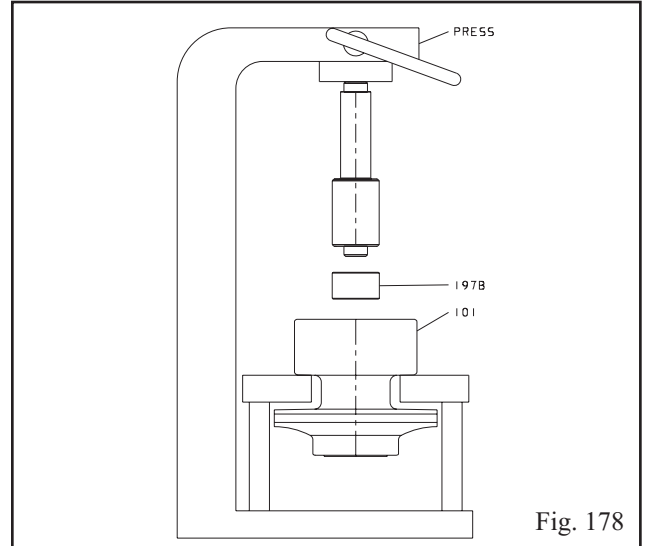

Fig. 178
2. Lubricate the outside of both radial bearings. Press the first radial bearing (197B) into impeller using the bearing installation tool. Support the impeller as shown. Line up keyway in bearing with key in the impeller (Fig. 178).